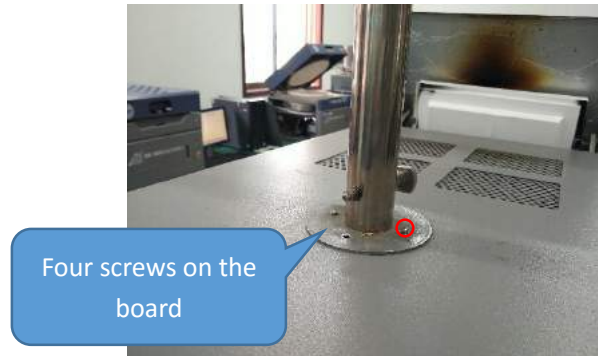

Figure 1
1. Loosen the screws as showed in Figure 1 and 2,